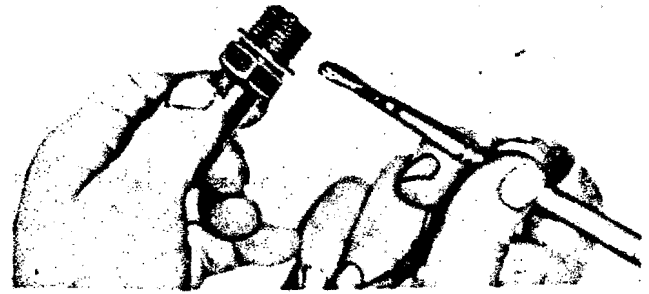

Figure 7-28. Compound to Sparkplug
a. Apply anti-seize thread compound (Specification MIL-T-5544) sparingly as a thin film on the shell threads, taking special care to coat the first several threads. Make sure that the compound is thoroughly mixed because, after settling, the finely powdered mica or graphite separates from the compound and collects in the bottom of the container. A small brush should be used to apply the compound [Figure 7-28]. Do not apply with the fingers.